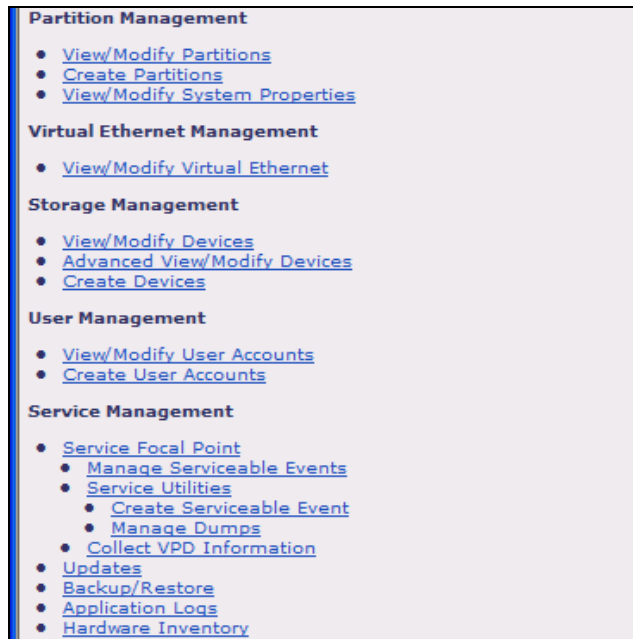

Figure 48. Selecting **Create Partitions**
1. From the left navigation panel (see Figure 48), click **Create Partitions** (under Partition Management).